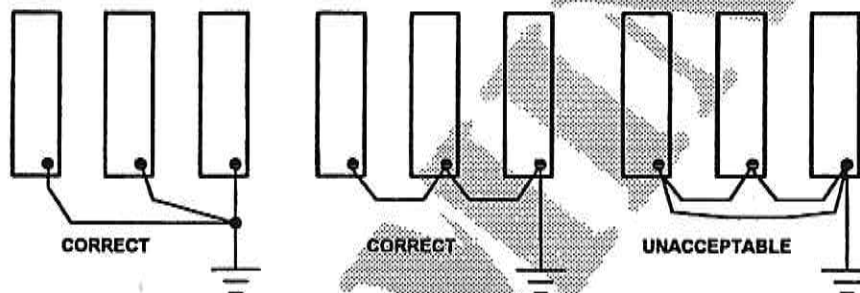

Fig. 5.1: VS-808 Grounding
- Ground each VS-808 directly or daisy-chain the ground terminals. Never create a loop with the ground leads. See figure 5.1.